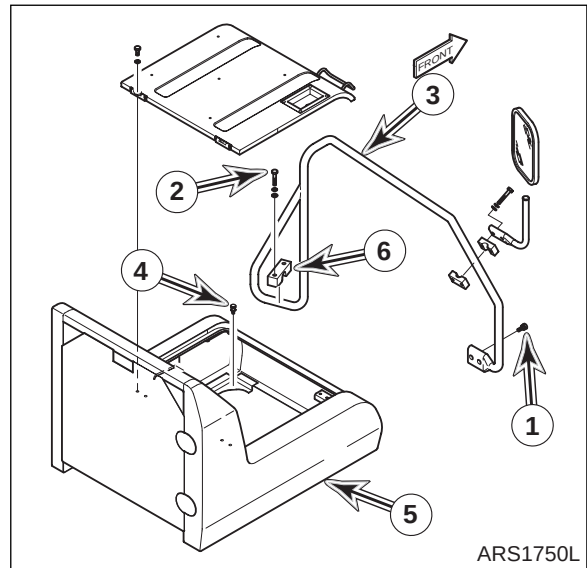

Figure 10
15. Remove four bolts (1 and 2, Figure 10), clamp (6) and stay (3) from fuel tank and frame.